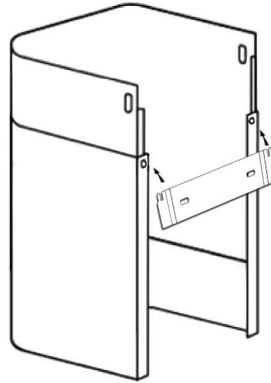

Figure 5
- Hook lower chimney bracket to lower chimney (see Figure 5).